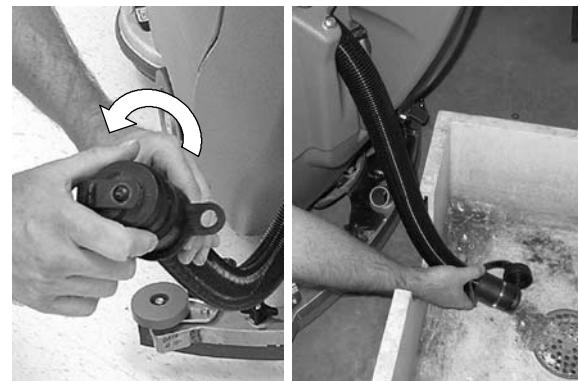

FIG. 29
1. While holding the drain hose upward, remove the cap and lower hose to drain (Figure 29).